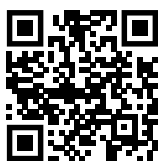

Fig. 184
- Åpne Liebherr SmartMonitoring Dashboard. (se Fig. 184)